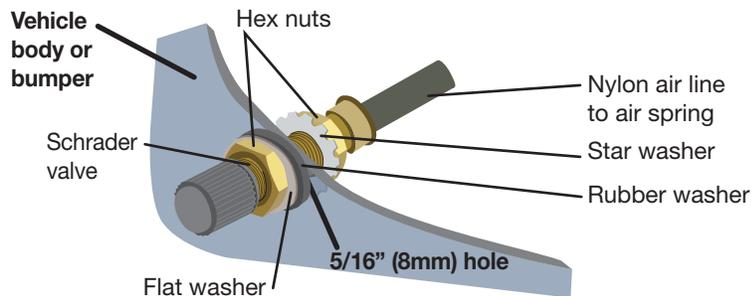

fig. 15
3. Install the Schrader valve in the chosen location (Fig. 15).